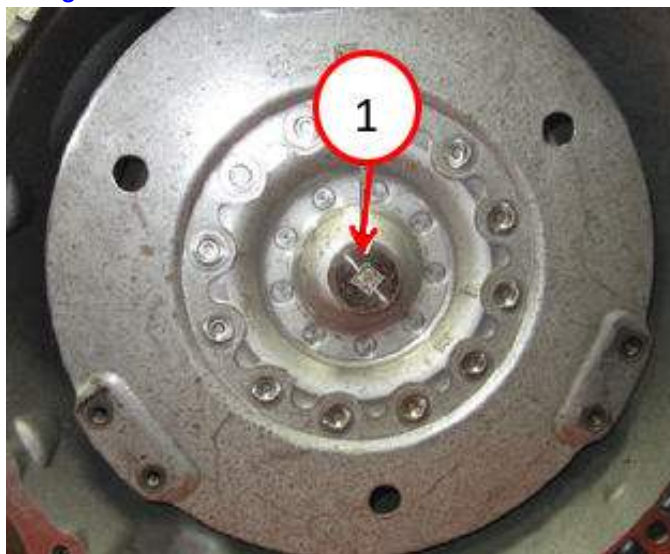

Fig. 2
- Remove the torque converter Fig. 2.